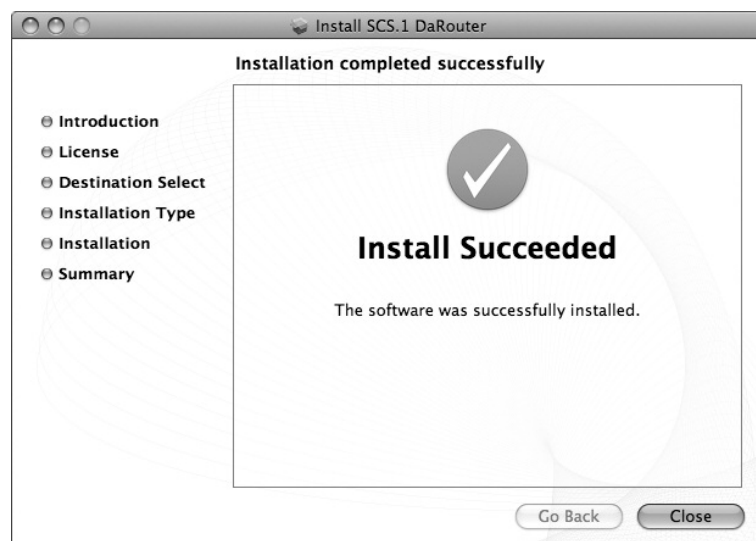

Figure 4.22
- DaRouter will be installed. Once done, click **Close**. (Figure 4.22)